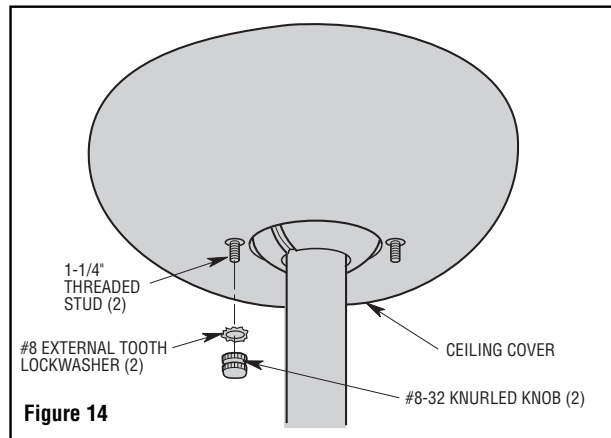

Figure 14
5. Lift the ceiling cover up to the threaded studs and turn until the studs protrude through the holes in the ceiling cover (Figure 14).
- Secure the ceiling cover in place by sliding lockwashers (supplied) over the threaded studs and installing the two knurled knobs (supplied). (Figure 14). Tighten the knurled knobs securely until the ceiling cover fits snugly against the ceiling.